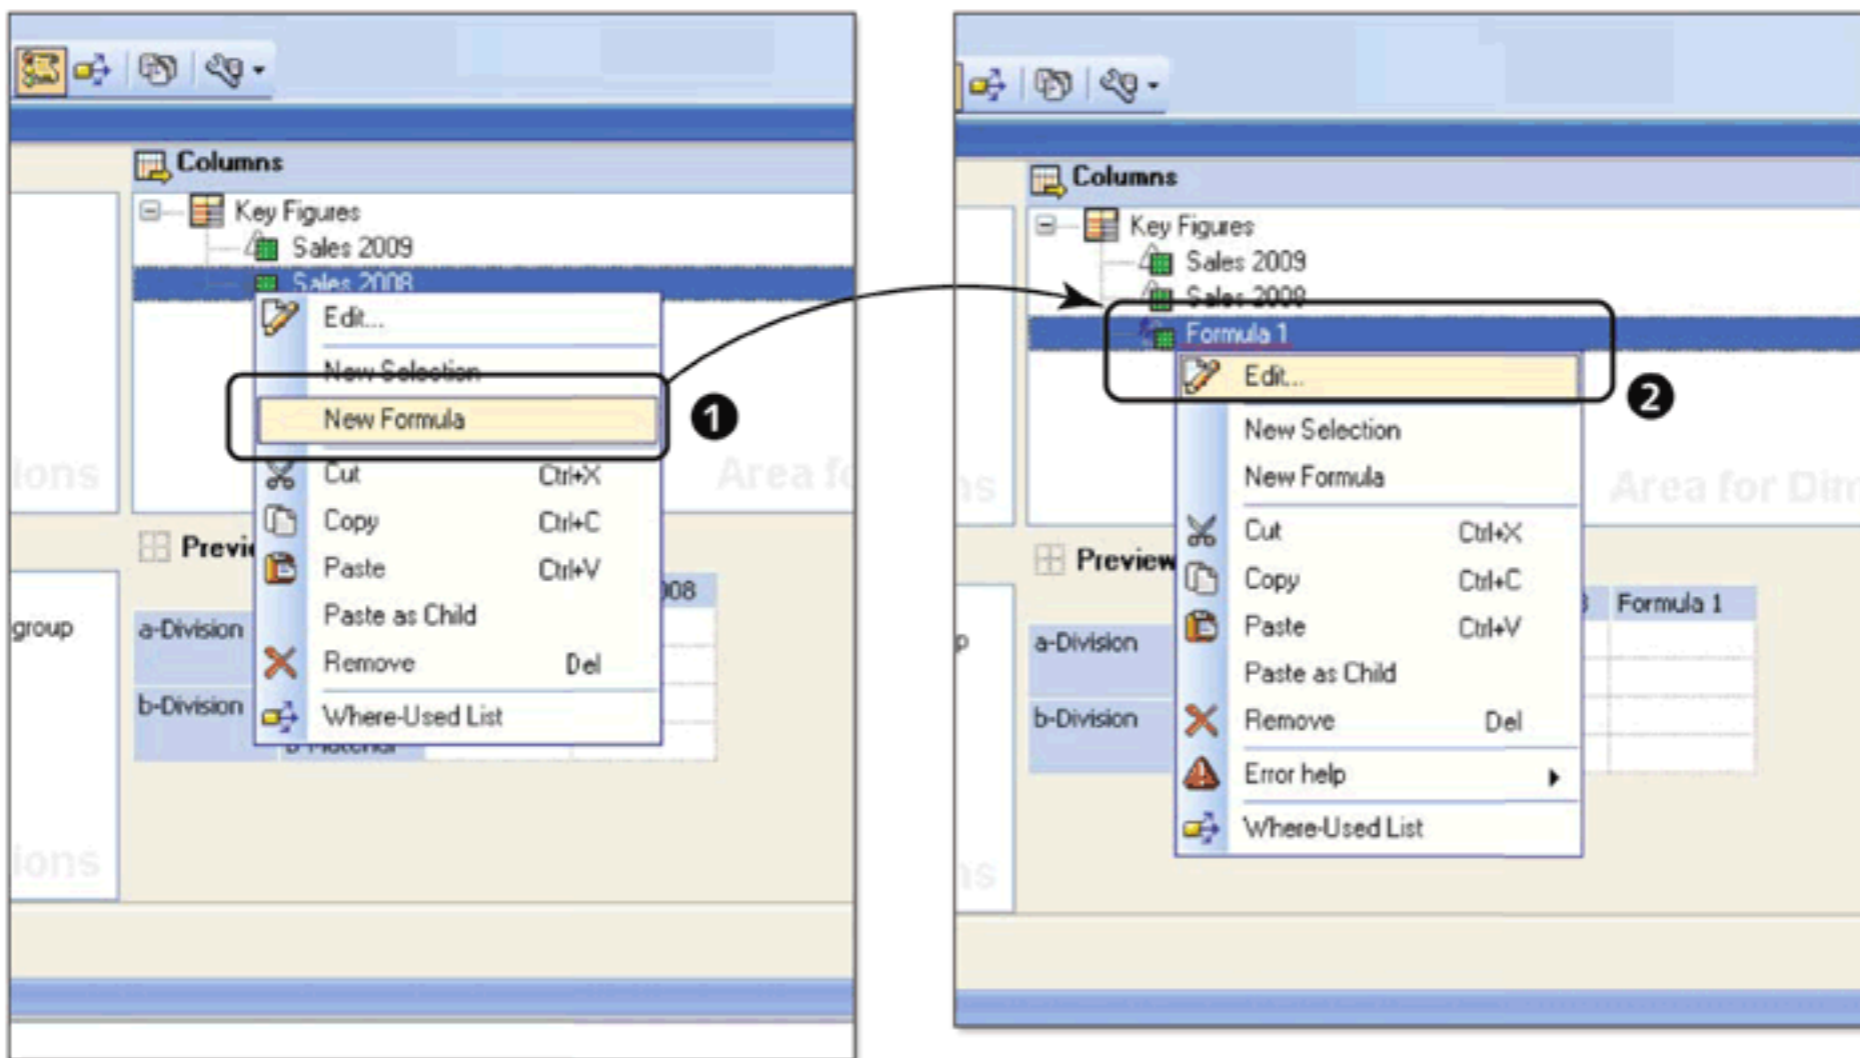

Figure 9.58 Create New Formula
Let's now move on to the next requirement, which is to add a column that compares the 2009 and 2008 values in the column YoY Comparison (%) (refer to Figure 9.52 earlier in this chapter). This type of calculation is addressed using the formula component in the structure. To create a formula, select the option **NEW FORMULA** from the context menu, as shown in ❶ of Figure 9.58.